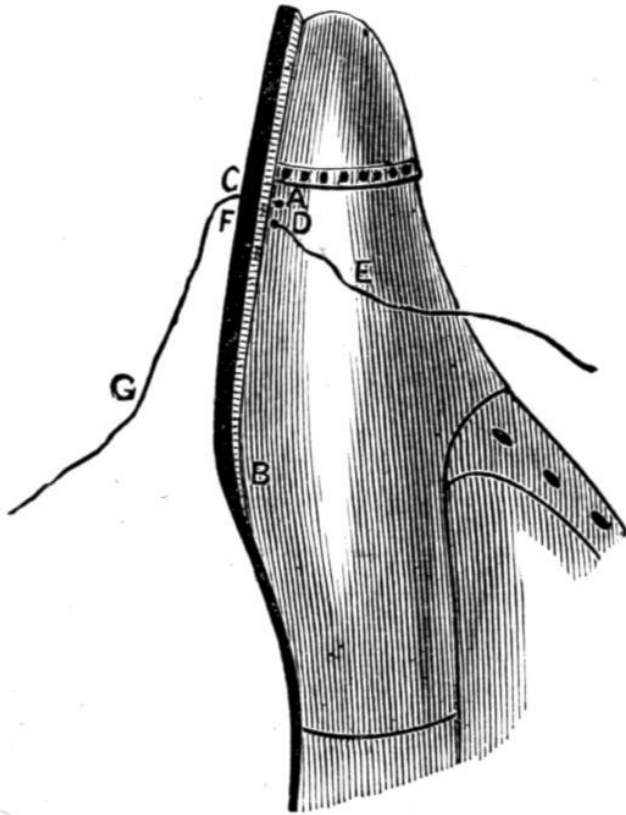
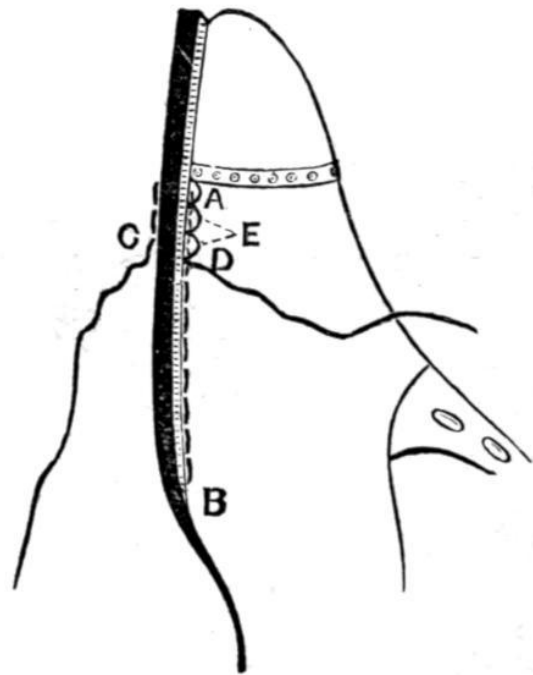

Fig. 49.—Loop Stitching.
Fig. 50.—Seat Stitching.
It sometimes happens that the upper leaves the sole for some distance along the side of the boot, as from A to B (Fig. 49). One way to sew them together again is by loop-stitching; the loop, which is inside and draws the upper to the sole, can be set at every stitch or each alternate one, but take care not to make large holes in the upper. To proceed, make a hole with the sewing-awl through the sole from A to C, draw the thread through, and halve it; then with a fine stab-awl make a hole in the upper; at A put through the right hand end, and draw it through inside the boot; make another hole at D and draw the end through outside, as shown by E. The hole is found inside, as explained in the directions for blind-stabbing (p. 41). For such work as this, however, it can be done by the stitch-draw, explained later on. When thus far, make another hole through the sole from D to F; put the left end (C) in first, then the right (E), pull them tight on both sides, and the loop-stitch is set.
The seat-stitch is another way. For this a row of rather long stitches are set in the upper, from A to B (Fig. 50). This can be done with a stout stab-awl and a sewing-thread (size about 9 cord of “Patent No. 9”), with the stitches quite close to the sole. Then, at A, bore through the sole a hole, A C (Fig. 49), being careful to make it exactly opposite the centre of the first stitch on the upper, A (Fig. 50). Lift up this stitch by putting the point of the sewing-awl under. Put an end through this stitch and through the hole made in the sole, and halve thread as before. This leaves one end in the sole on the left and one through the stitch on the right, as at C and D. There are three stitches set to show how each stitch is caught up and drawn down; the two loops at E are left loose to illustrate. Each stitch must be pulled in quite tight, as that is what draws the upper to the sole.